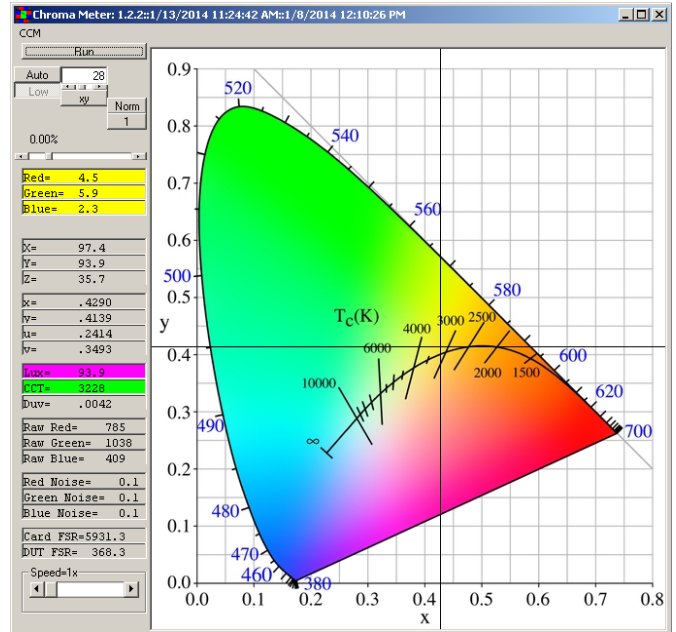
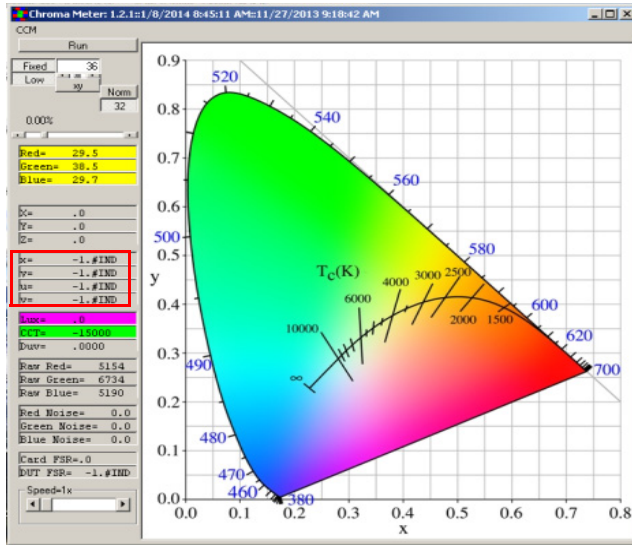

FIGURE 12. CHROMA TEST GUI
FIGURE 15. USB CONNECTED ERROR OR EEPROM FILE DOES NOT LOAD
- C) Once “ChromaMeter” is clicked, the window displayed in Figure 12 should open; if it does not display cross-points in the Chromaticity diagram on the right and numbers on the left panel of GUI, then check your connections. If the problem still persists, then you may want to restart the software. Figure 15 shows the error message that displays if the evaluation board is improperly attached.
- D) Figure 12 shows an example using the ISL29125. Please note that all demonstrations within this document use the ISL29125.
16. Speed: Allows the user to select the number of ADC bits and the speed of the conversion. Details shown in Figure 12.